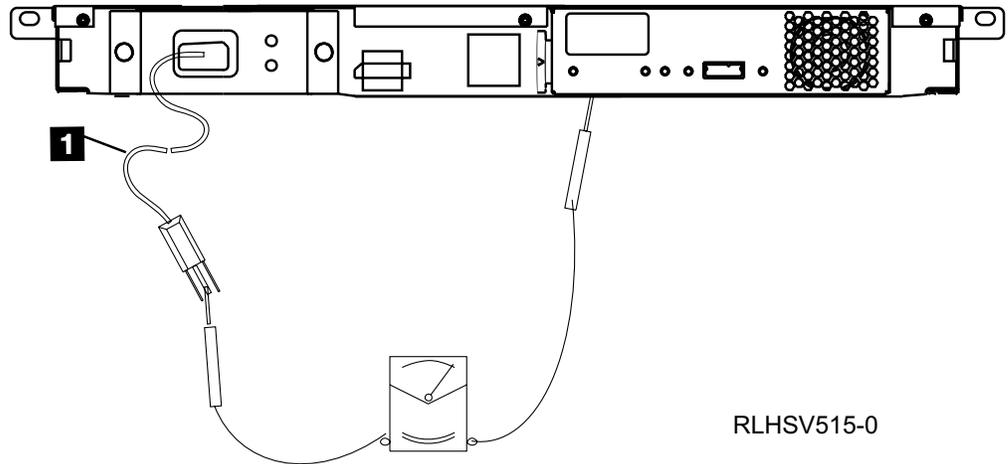

Figure 21. Rear View of the 7214 Storage Enclosure
13. With the external power cable ( **1** in Figure 21 on page 49) connected to the 7214 Storage Enclosure, check to ensure 1.0 ohm or less resistance between the ground lug on the external power cable plug and the metal frame.